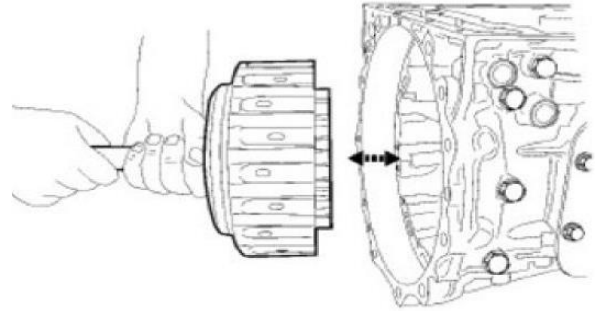

Fig. 6
35. Remove the input shaft assembly with the K1 and K2 clutch assemblies attached (Fig. 6).
37. Install the K2 clutch assembly and the K1 clutch/input shaft assembly into the transmission case (Fig. 6),